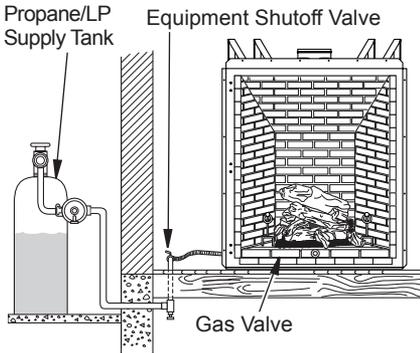
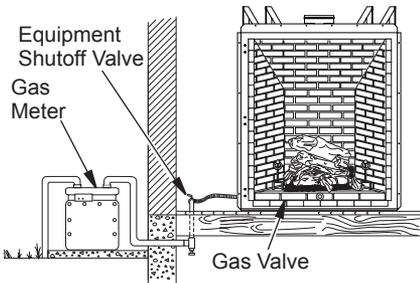

Figure 24 - Checking Gas Joints for Propane/LP Gas Fireplace
Figure 25 - Checking Gas Joints for Natural Gas Fireplace
3. Check all joints from propane/LP supply tank or gas meter to equipment shutoff valve (see Figure 24 or Figure 25, page 17). Apply noncorrosive leak detection fluid to all joints. Bubbles forming show a leak.
4. Check all joints from equipment shutoff valve to gas valve (see Figure 24 or Figure 25). Apply noncorrosive leak detection fluid to all joints. Bubbles forming show a leak. Correct all leaks at once.